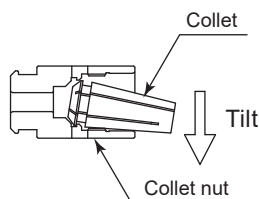
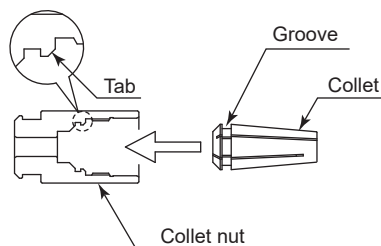

Fig. 9
Fig. 10
- ② Hold the collet nut in one hand, and tilt the collet to one side to release it. If the collet is not released, try tilting it to the other side. (Fig. 9)
- ③ Hold the collet nut in one hand, and install the collet. (Fig. 10)
If the collet is difficult to install, tilt the collet to one side when inserting it, so that the tabs can more easily be seated in the groove. (Fig. 9, Fig. 10)